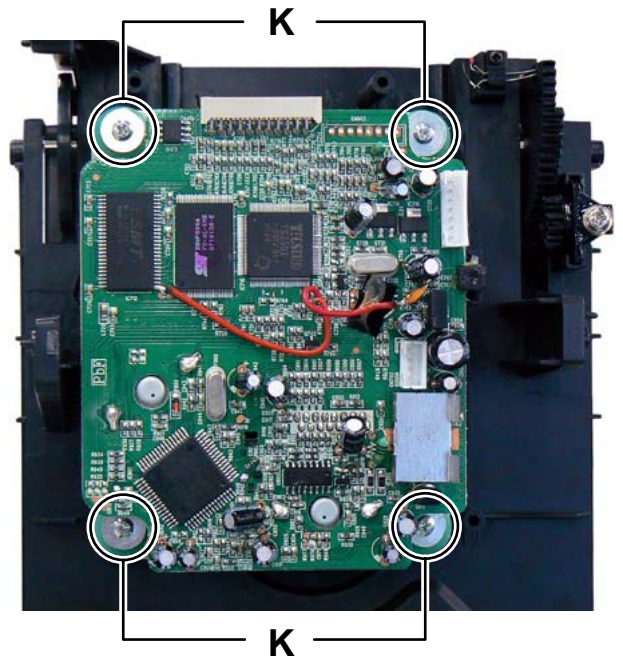

Fig.14
**3.1.6 Removing the CD MECHANISM assembly (See Fig.14)**